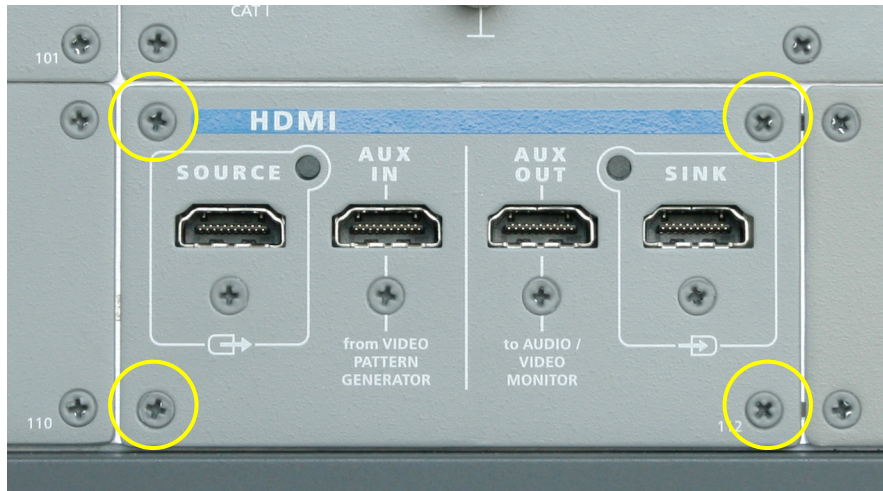

Figure 1 Front panel screws
2. Using a #1 Phillips screwdriver, remove the four screws that secure the HDMI front panel to the instrument, as shown in Figure 1.